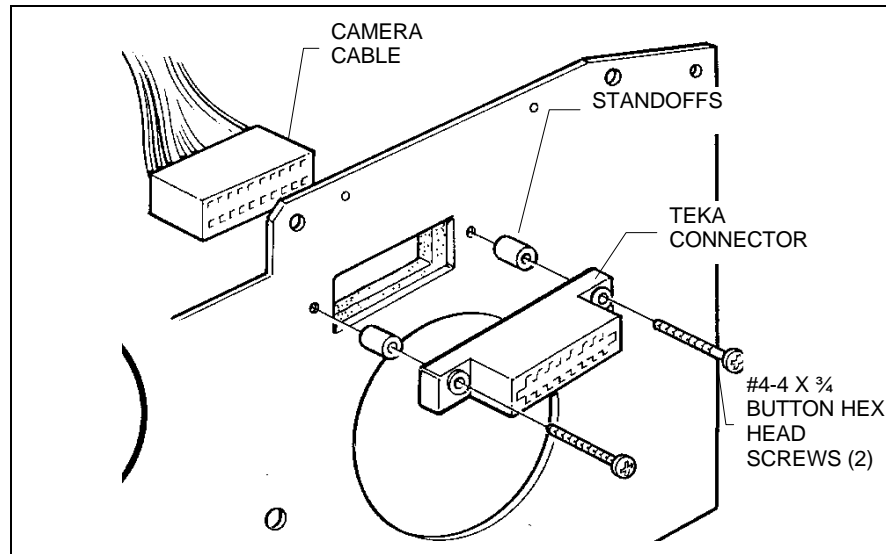

Figure 6-7. Removing the camera cable (TEKA) connector
3. Remove the Camera Cable (TEKA) Connector from the camera plate by removing two 4-40 x $\frac{3}{4}$ button hex head screws. Two standoffs behind the connector will be freed when the connector is released. Avoid losing them. (Figure 6-7)